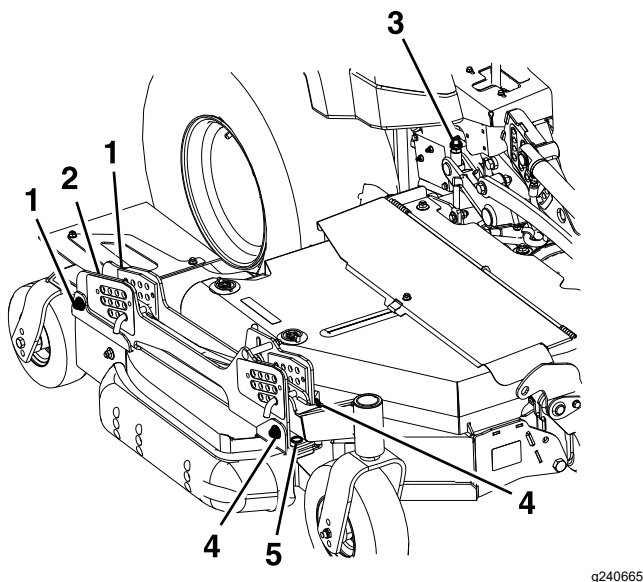

Figure 82
3. The left and right wing decks have blade height adjustments with front and rear adjustment points. To adjust the wing-blade height, first loosen the front and rear height-of-cut hanger mounting nuts. There are 4 locations (2 on each side of the channel) as shown in Figure 82.
- If the deck is too low, tighten the front height-adjustment bolt (Figure 82) by rotating the bottom nut clockwise.
- If the deck is too high, loosen the front height-adjustment bolt (Figure 82) by rotating the bottom nut counterclockwise. Fine-tune the rear adjusters as required.
Adjust the rear wheel height (Figure 82) so that the rear wheel lightly touches the ground with minimal pressure.
4. Measure the back of the wing blades. If either has less than 1.5 mm (1/16 inch) rake, raise the rear of the deck by tightening the left and right rear adjustments (Figure 82) until all 4 blades have a minimum of 1.5 mm (1/16 inch) rake. Adjust the rear wing wheels so that they lightly touch the ground with minimal pressure. Tighten all 4 rear hanger-mount locations (Figure 82).